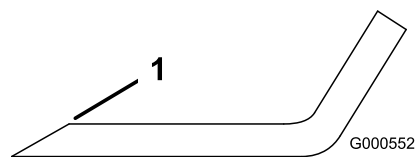
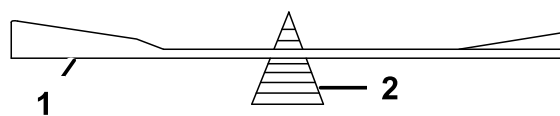

Figure 45
Figure 46
1. Use a file to sharpen the cutting edge at both ends of the blade (Figure 45). Maintain the original angle. The blade retains its balance if the same amount of material is removed from both cutting edges.
2. Check the balance of the blade by putting it on a blade balancer (Figure 46). If the blade stays in a horizontal position, the blade is balanced and can be used. If the blade is not balanced, file some metal off the end of the sail area only (Figure 45). Repeat this procedure until the blade is balanced.